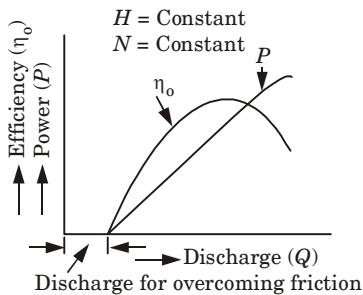

Fig. 4.36.3. Operating characteristic curves.
2. For operating characteristics, N and H are constant and hence the variation of power and efficiency with respect to discharge Q are plotted. These variations are shown in Fig. 4.36.3.